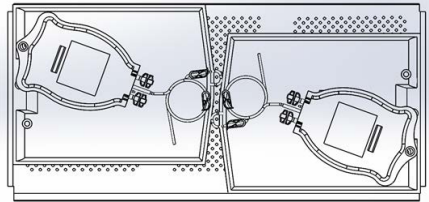
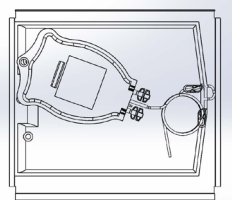

Figure 2
Figure 3
- 2) When placing on the flatbed platelet agitator shelf, be sure to place no more than two HEMANEXT ONE systems per shelf with the ORB parallel to the axis of motion and the HSB on top of the ORB as shown in the diagram below (Figure 2). If only one system can fit per shelf refer to Figure 3.